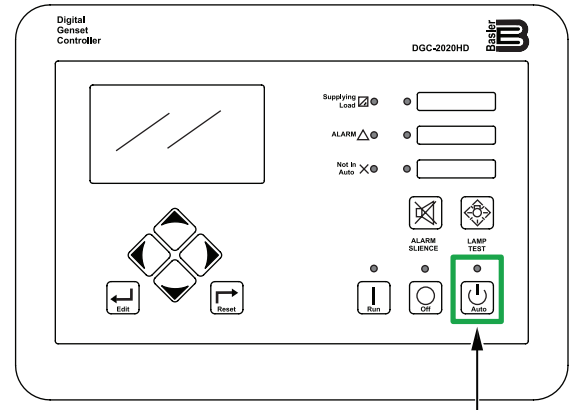

Figure 47. Digital Controller (Auto Button)
2. Press the **Auto button** (Figure 47) on the digital controller. Once the start signal is received (the remote-start contacts are closed), the pre-heating process will begin. When the pre-heating process has completed, the engine will start automatically and accelerate to rated speed. When the remote-start contacts are opened, the engine will stop.